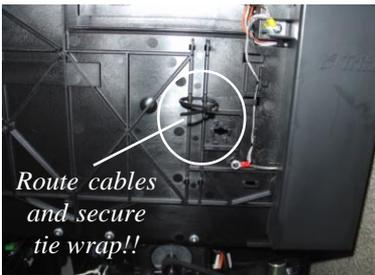
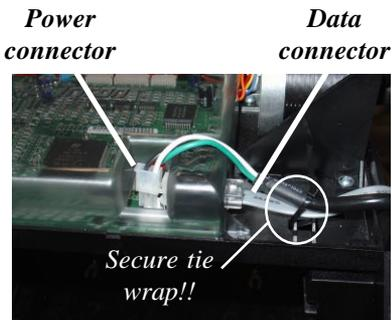

Figure 10. Cable tie wrap location for TDM-150 (side of dispenser).
Figure 11. Data / power connections.
9. **(For TDM-150)** Route the serial communications cable and power cable through the tie-wrap loop located on the side of the dispenser shown in Figure 10. Continue to route cables through second tie wrap as shown in Figure 11. Plug the data cable into jack J11. Plug the DC power connector into jack J12 (Figure 11). **Pull both tie wraps to secure cables to dispenser.**
10. **(For TDM-100)** Rotate the dispenser 90° counterclockwise. Route the serial communications cable and power cable through the tie-wrap loop and plug the data cable into jack J11. Plug the DC power connector into jack J12 (Figure 11). **Pull tie wrap to secure cables to dispenser.**